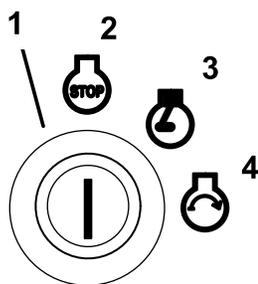

Figure 13
6. Turn the ignition key clockwise to the run position (Figure 13).
- Turn the key to the start position and the glow plug indicator light will come back on. When the engine starts, release the key (Figure 13).
- Turn the ignition key clockwise to the run position (Figure 13).
- Turn the ignition key to the off position (Figure 13). Wait for all moving parts to stop before leaving the operating position.